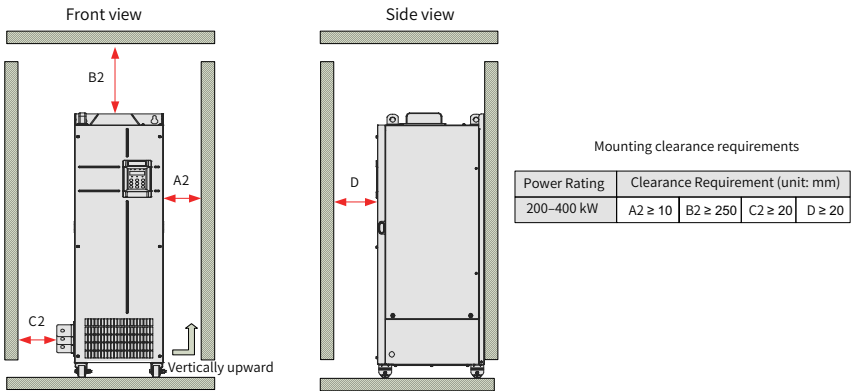
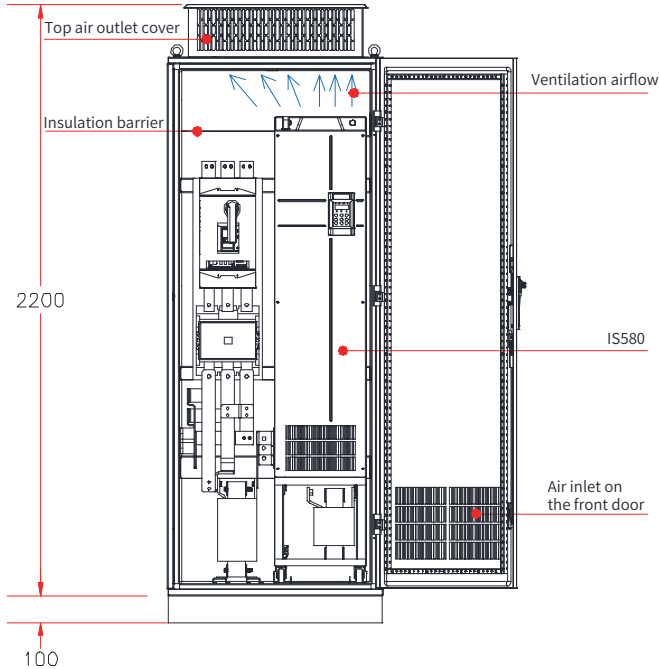
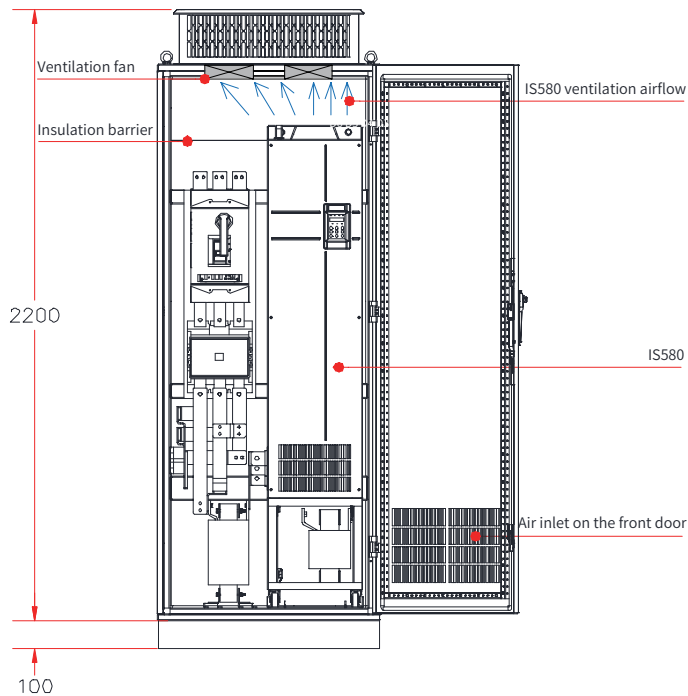

Figure 3-3 Mounting clearance for a single drive (IS580T370-R1 to IS580T720-R1)
Figure 3-12 Direct discharging cabinet
Figure 3-13 Cabinet with fan on the top
- ◆ See Figure 3-3 for mounting clearance requirements. Ensure there is sufficient ventilation space for both the servo drive and other devices in the cabinet, as shown in Figure 3-12 and Figure 3-13.